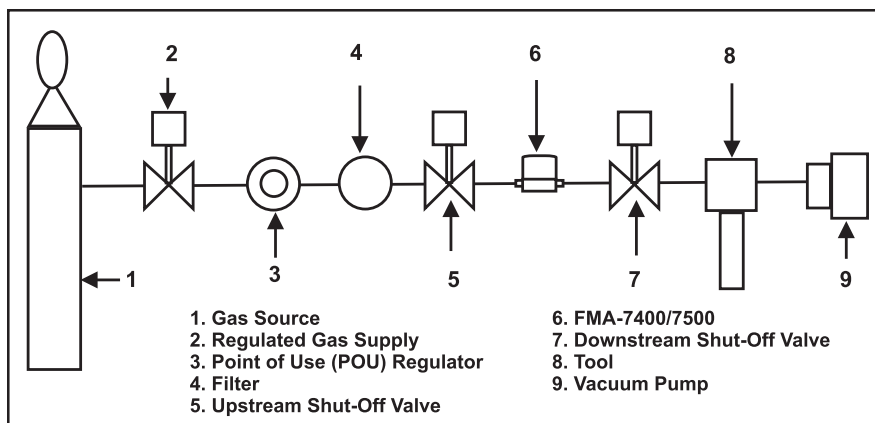

Figure 2-1 Typical Gas Supply Arrangement
Typical gas supply arrangements are shown in Figure 2-1. FMA-7400/7500 Series devices are often arranged inside a gas panel. Configure standard configurations ("SAs") or "blanks" for a variety of pure gases and mixtures. As a result, MultiGas/MultiRange technology enables the user to reduce unique inventory requirements
For additional safety, it is recommended to close the two valves between the charged gas line and the FMA-7400/7500 Series to be installed. See Figure 2-1 for more details.
3. Refer to Figure 2-1. Open the upstream shut-off valve (5) and close the downstream shut-off valve (7). This eliminates a pressure drop across the FMA-7400/7500 Series and subsequent leakage from the PID control valve inside the FMA-7400/7500 Series.
5. Refer to Figure 2-1. Close the upstream shut-off valve (5) to prevent any pressure effects from the regulator (3).